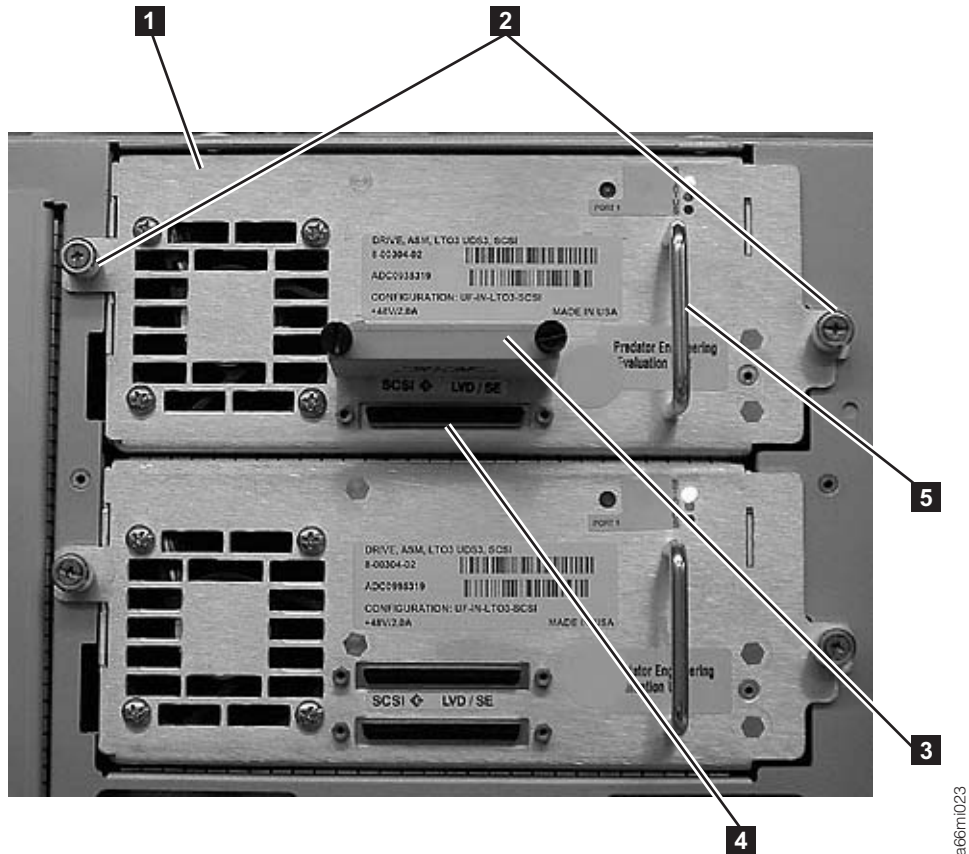
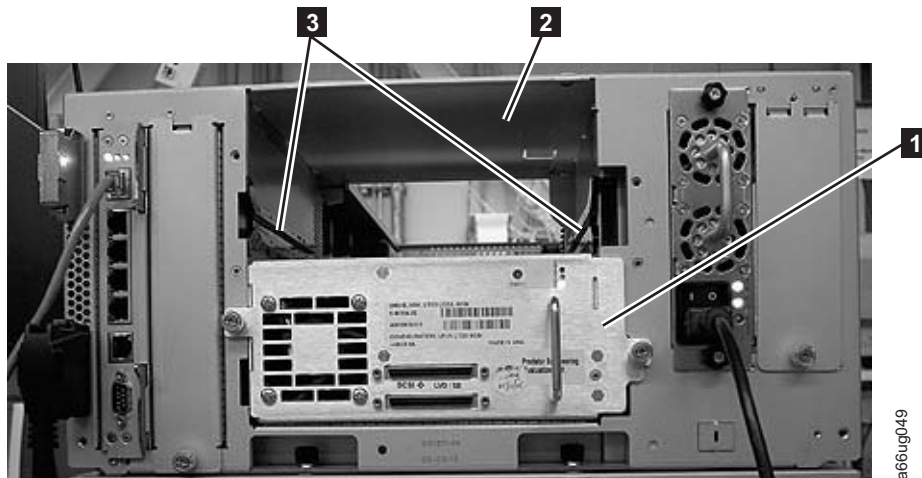

Figure 12-12. Drive sled (detail)
Figure 12-14. Drive sled slot
3. Loosen the two thumb screws (**2** in Figure 12-12) that hold the drive in place by turning them counterclockwise.
4. Slide the drive out of the library module. Grasp the handle (**5** in Figure 12-12) and slowly pull the drive toward you, while supporting the drive sled from underneath.
1. Align the drive sled with the guide rails and guide slots along the tracks ( **3** in Figure 12-14) in the open drive sled slot ( **2** in Figure 12-14). Grasp the handle ( **5** in Figure 12-12 on page 12-16) and slowly slide the drive sled into the CM, while supporting the drive sled from underneath.
2. Tighten the two thumb screws ( **2** in Figure 12-12 on page 12-16) that hold the drive sled in place by turning them clockwise.
- a. For a SCSI drive sled, plug the cable and terminator into the drive sled. Tighten the thumb screws that hold the SCSI cable ( **4** in Figure 12-12 on page 12-16 shows the SCSI receptacle) and terminator ( **3** in Figure 12-12 on page 12-16) in place by turning them clockwise.